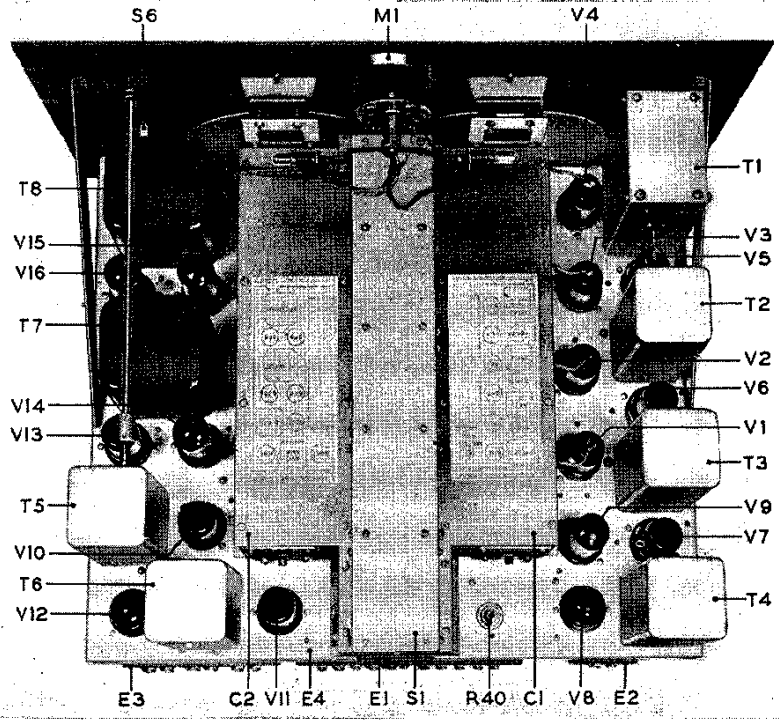

FIG. 7—Top chassis view showing arrangement of components.
h. *S-Meter Tuning:* The S-meter (M1, Fig. 2), a tuning guide, operates only when the Receiver is set for AVC. Its reading increases as the Receiver approaches resonance with the incoming signal. Exact resonance is shown by the greatest reading of the meter. BAND WIDTH control must be set at 3 for accurate tuning by means of the meter. A screwdriver adjustment (R40, Fig. 7) at the rear of the chassis varies the resistance in shunt with the meter. By means of this adjustment, an "S9" reading may be obtained on any input between approximately 10 and 10,000 microvolts. The normal factory adjustment is made on an input of 50 microvolts, and when so adjusted each "S" number represents a change in signal input of approximately 6 decibels, or a ratio of two-to-one.